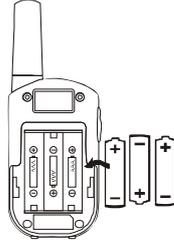

Figure 3
- b. Insert 3 "AAA" size batteries by following the polarity marking inside the Battery Compartment as shown in Figure 3.